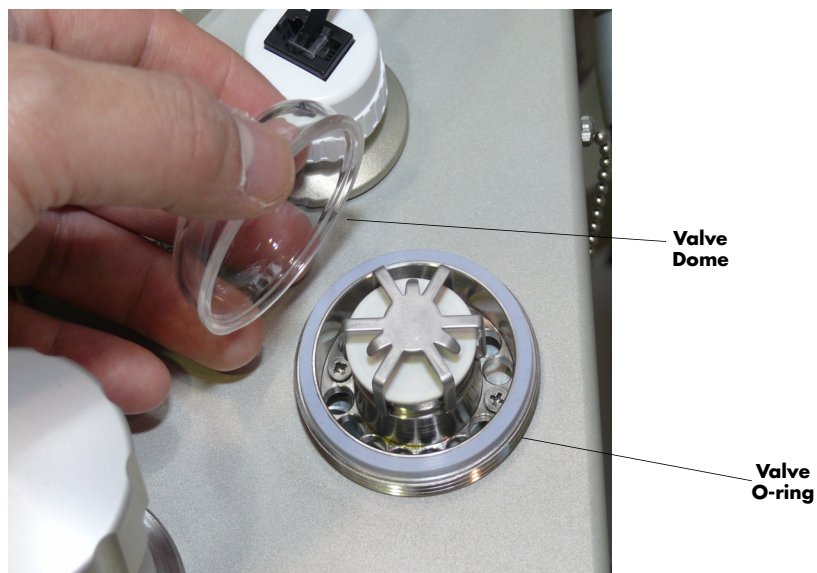

FIGURE 3-9 Valve Dome Removal
2. Remove the valve dome as shown in FIGURE 3-9, ensuring that the valve o-ring (also shown) remains seated.